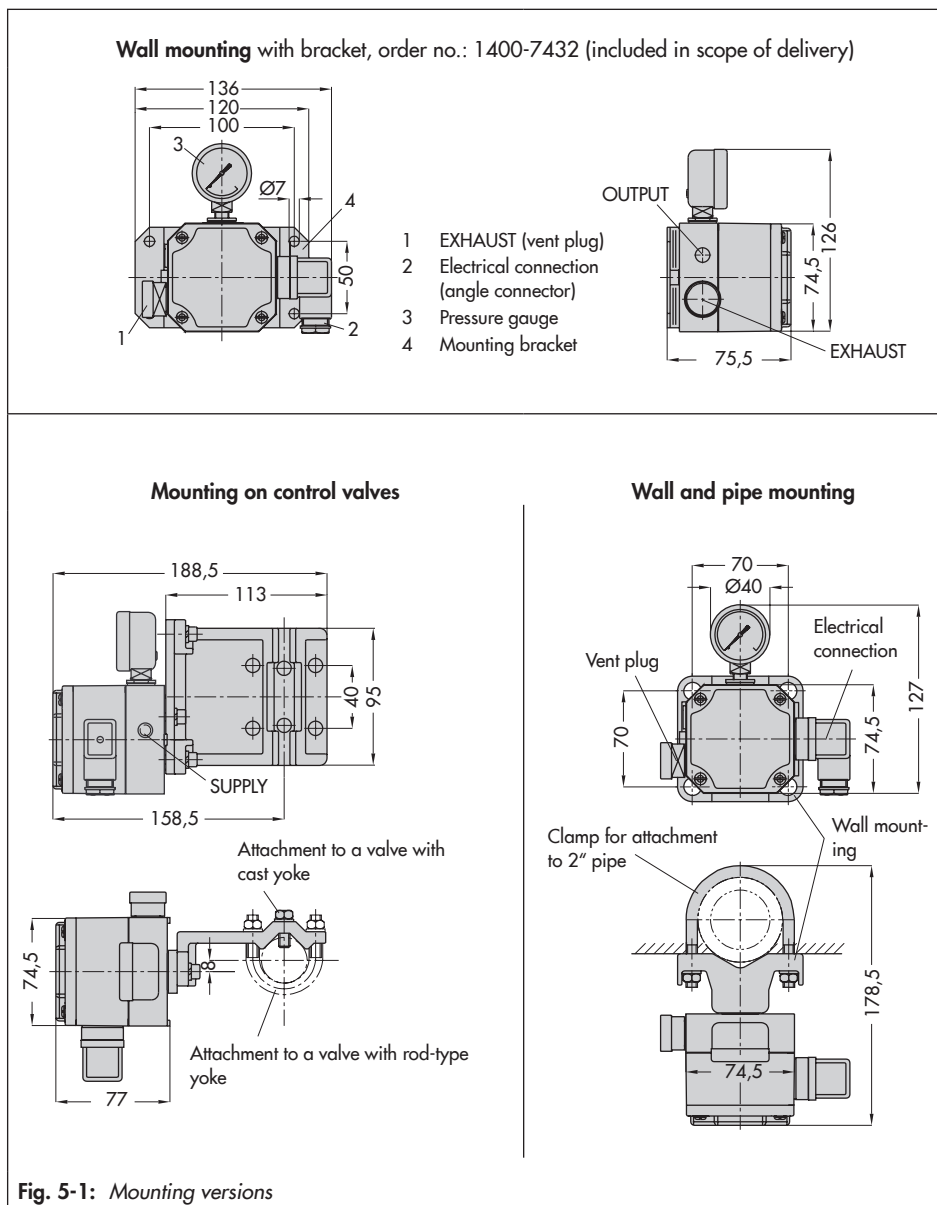

Fig. 5-1: Mounting versions
The converter can be mounted to a wall, a pipe ($\varnothing 2''$) or directly to a control valve (see Fig. 5-1).
- Fasten the mounting bracket to the wall using four screws (see Fig. 5-1 for drill pattern).